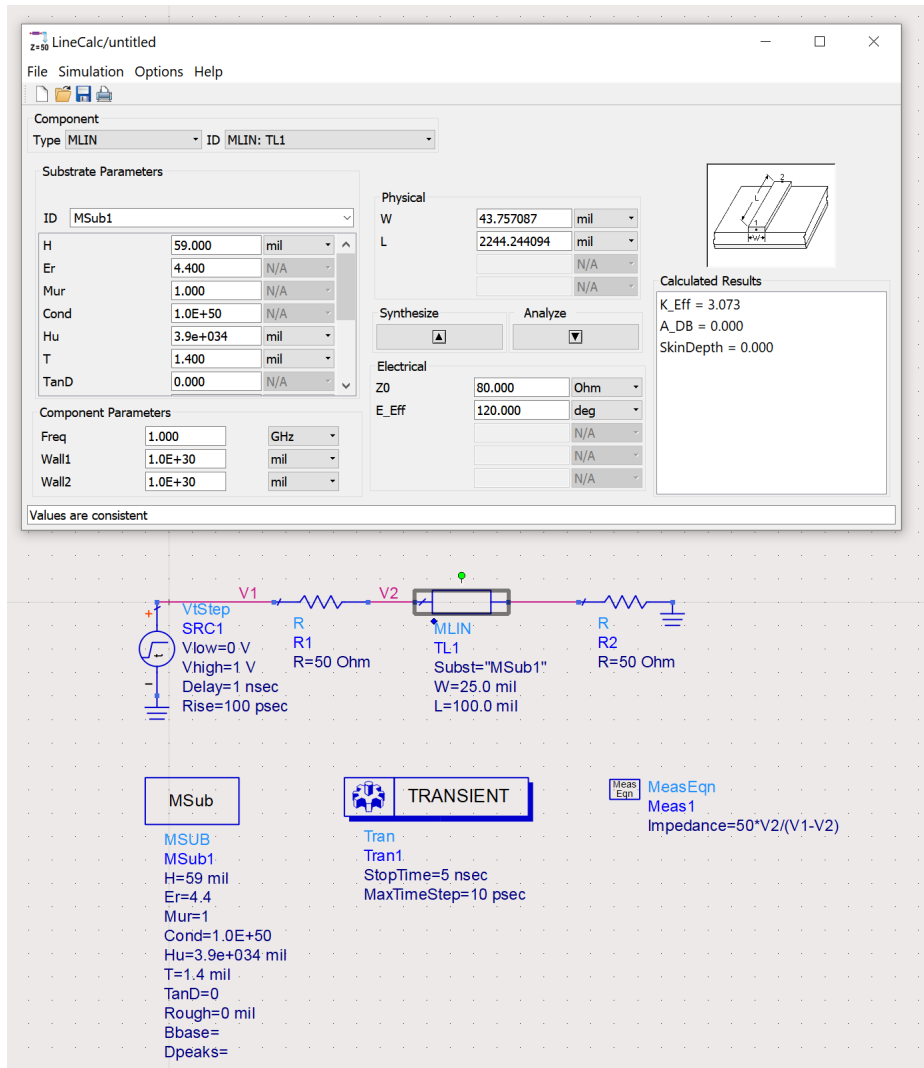

Figure 5: *Transient2* Schematic (before updates from LineCalc).
3. Create a new schematic named "Transient2". Draw the circuit with the given parameters as in Figure 5.
5. As in Figure 5, the MSUB info will be automatically updated in the *lineCalc*. Change *Freq*, *Z0* and *E_Eff* values to match with the previous TLIN you built. Click *Synthesize* to let LineCalc calculate microstrip's width and length for you. To Send the calculated values back to the schematic, click Tools → LineCalc → Update Selected Component from LineCalc.